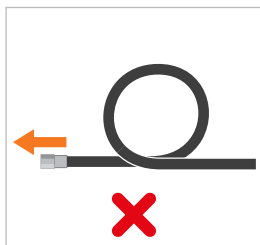

Figure 11
- ▶ Avoid the formation of loops in the hose and traction to looped hose segments (Figure 11).